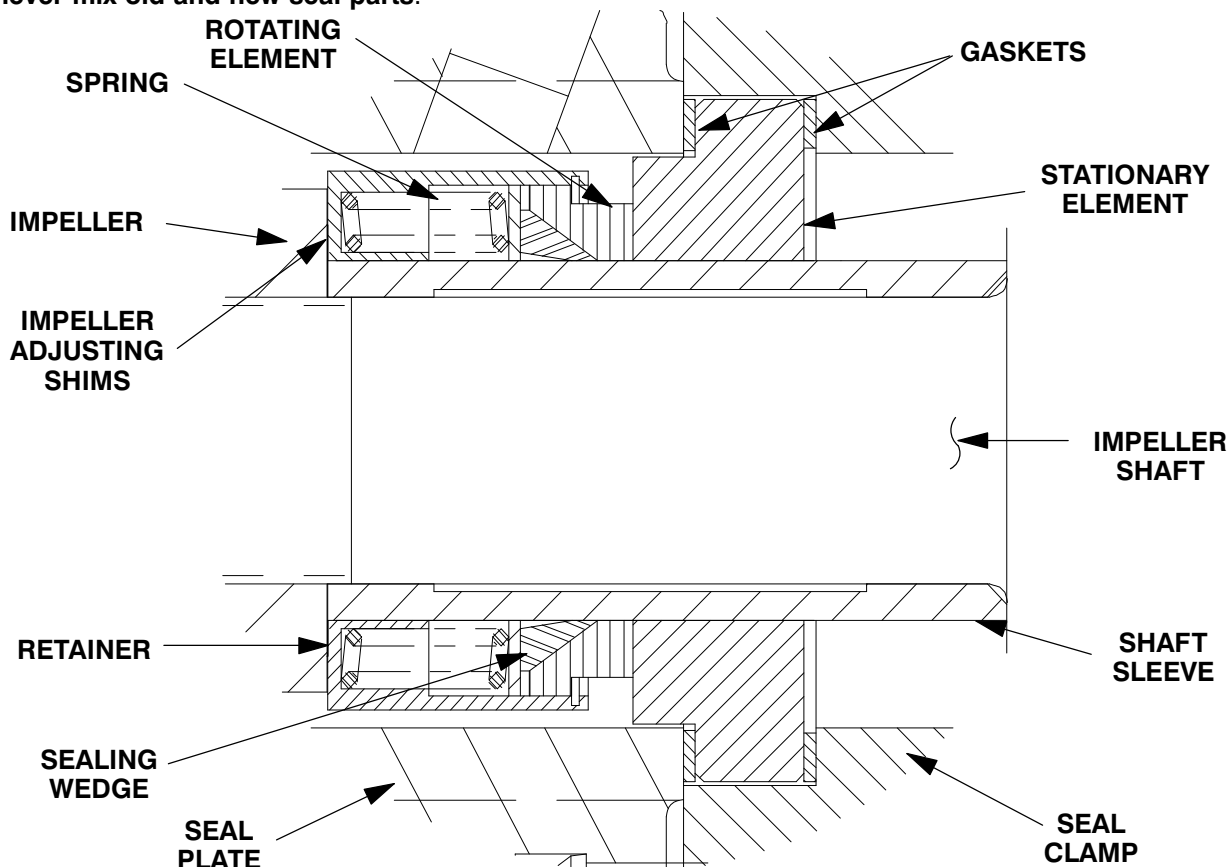

Figure 2. Seal Assembly
To ease installation of the seal, lubricate the shaft sleeve (8) with water or a very **small** amount of oil, and apply a drop of light lubricating oil on the finished faces. Assemble the seal as follows (see Figure 2).